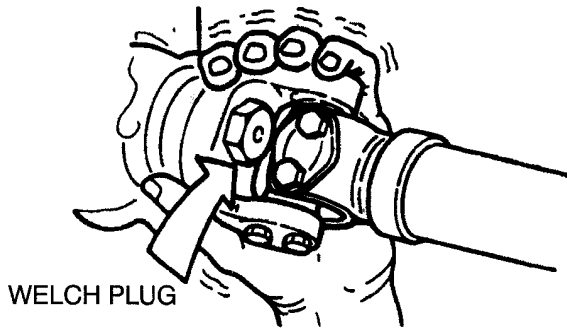

Figure 5 Check Output and Input End Yokes For Looseness
1. Check output and input end yokes at the transmission and axle for looseness (Figure 5). If loose, remove propeller shaft and tighten to specifications. Refer to GROUP 02 - FRONT AXLES, GROUP 13 - TRANSMISSION, or GROUP 14 - REAR AXLES in the CTS-5000 Master Service Manual for torque specifications.